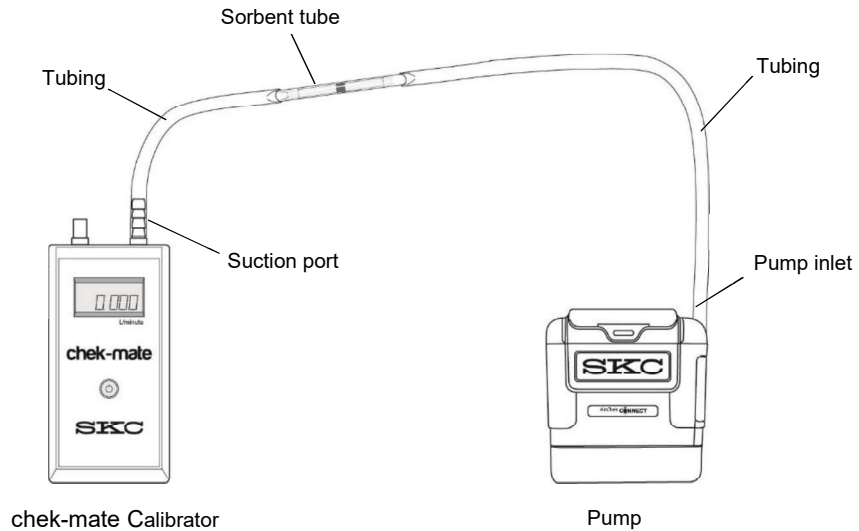

Figure 6. Calibration Train (100 to 1000 ml/min) for Single Tube — Constant Pressure Mode
Before setting/calibrating pump flow in Constant Pressure mode, connect the sorbent tube or other sample medium to the pump inlet. See Figure 6. **Note:** The pump will fault if there is no sample medium or if the load is too low.
2. Set up the calibration train (Figures 6 and 7). The All-in-One and CPC are not needed in Constant Pressure mode. Using tubing, connect the calibrator to the single sorbent tube or the first of multiple sorbent tubes.